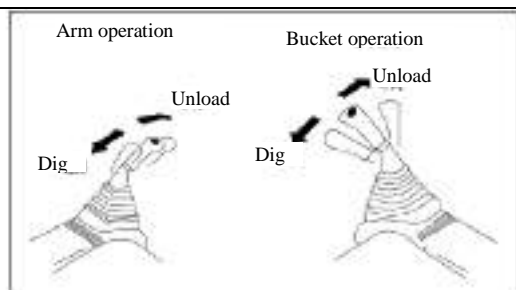

Figure 4-22 Arm, bucket lever
c) Slowly operate the bucket lever and lever of the stick as shown in Figure 4-22, move the bucket cylinder and bucket cylinder rod to stroke end.